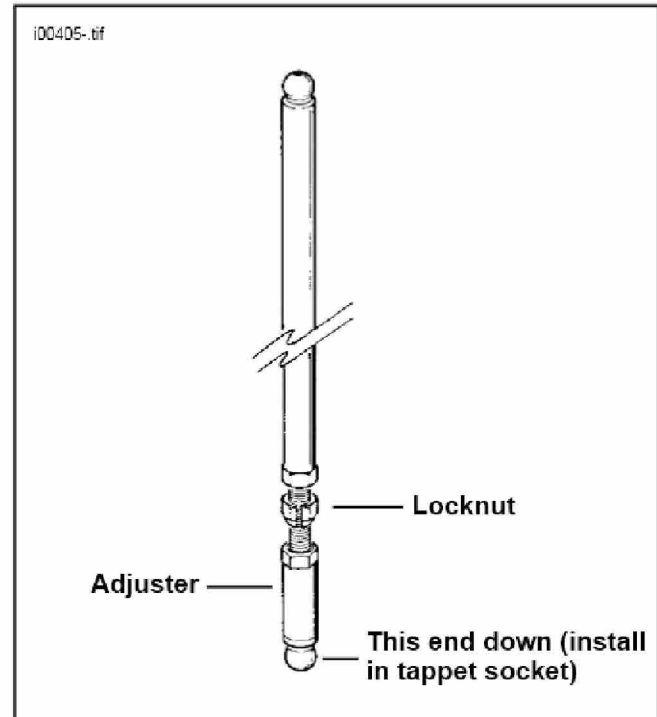

Figure 1. Adjustable Push Rod
5. See Figure 1. Loosen locknut on one of the long push rods and turn adjuster clockwise to shorten push rod.